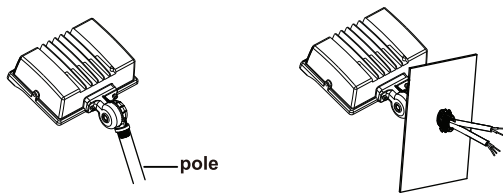

Fig. 3
- 4.) Insert the 1/2" threaded nipple into the mounting surface (pole, junction box, etc.). Ensure that it is secure by either screwing it into the mounting surface or with the supplied nut (**Fig. 3**).